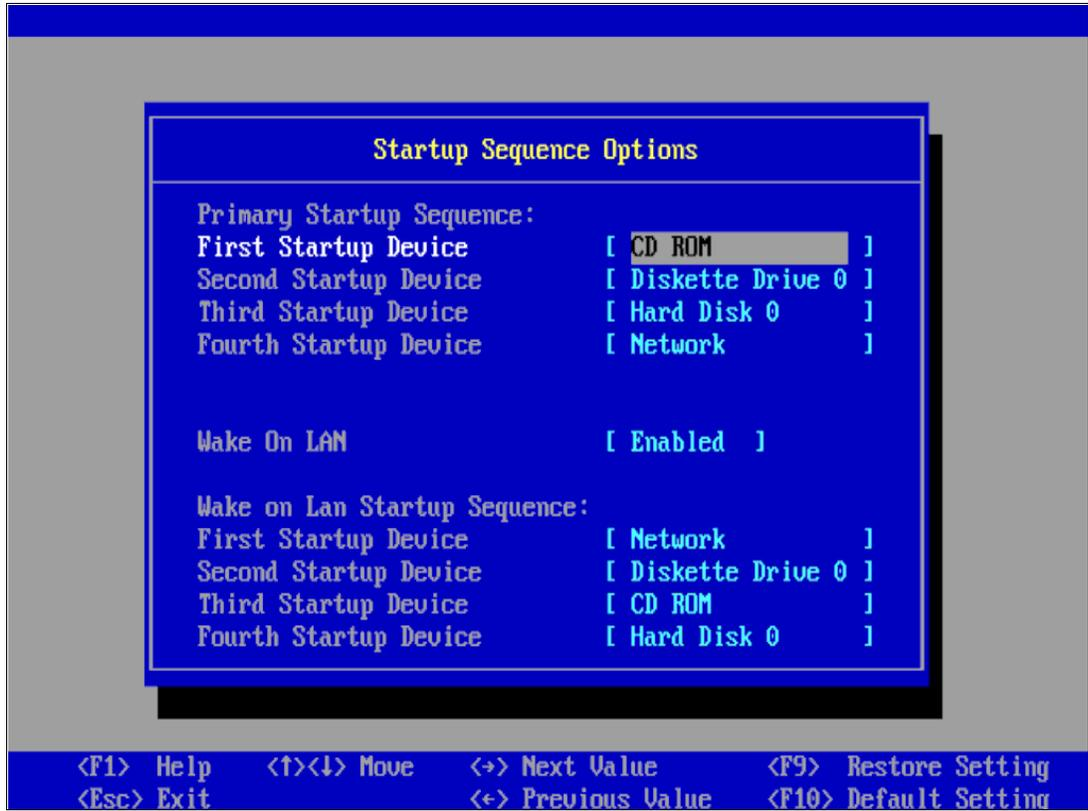

Figure 10-31 Startup Sequence Options
- b. From the main Configuration/Setup Utility window, select **Start Options**. Verify that the startup sequence option is configured, as shown in Figure 10-31.